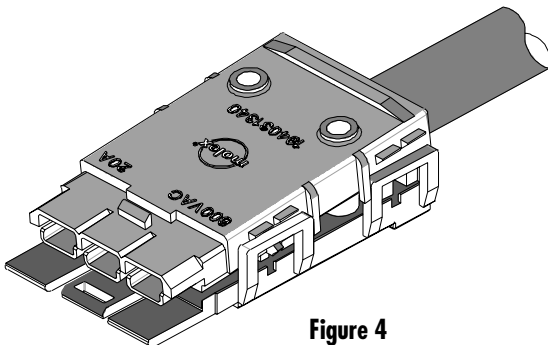
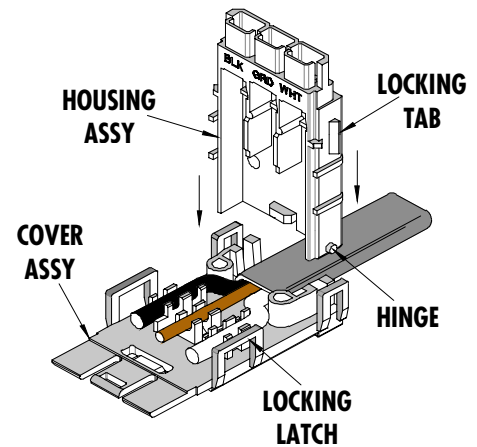
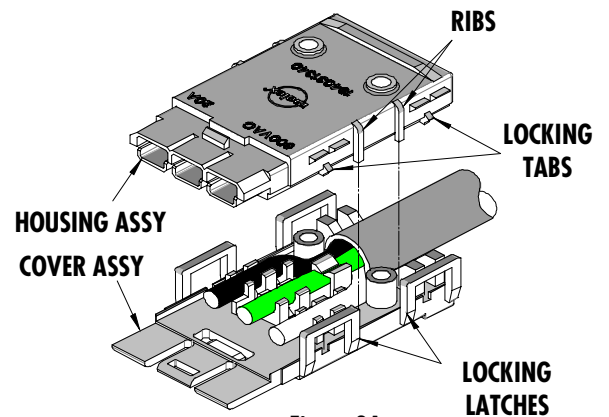

Figure 4
Figure 3B
Figure 3A
4. For connectors with four latches, position the housing assembly over the cover with the ribs in the housing aligned between the latches as shown in Figure 3A. Push the two halves together until the locking tabs engage as shown in Figure 4. For hinged connectors, position the hinge pins on the housing assembly into the mating holes in the cover as shown in figure 3B.